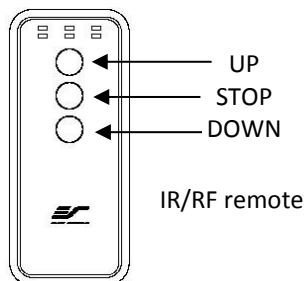

Fig.1
**1. IR remote control (Item A, Fig 1):** The Infrared functions by direct line of sight contact using a beam range of 30 feet. Aim the IR remote at the circular window located on the left side of the screen.